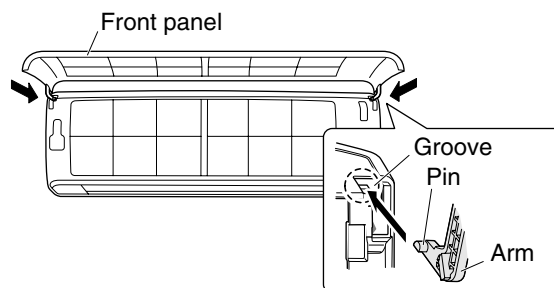

Fig. 11
- (5) Grasp the sections near the front panel arms on both sides, hold the front panel so that it is nearly horizontal, bring the arm shafts into contact with the top of the grooves on the right and left sides of the air conditioner, and then push firmly until the arm shafts click into place. (Fig. 11)